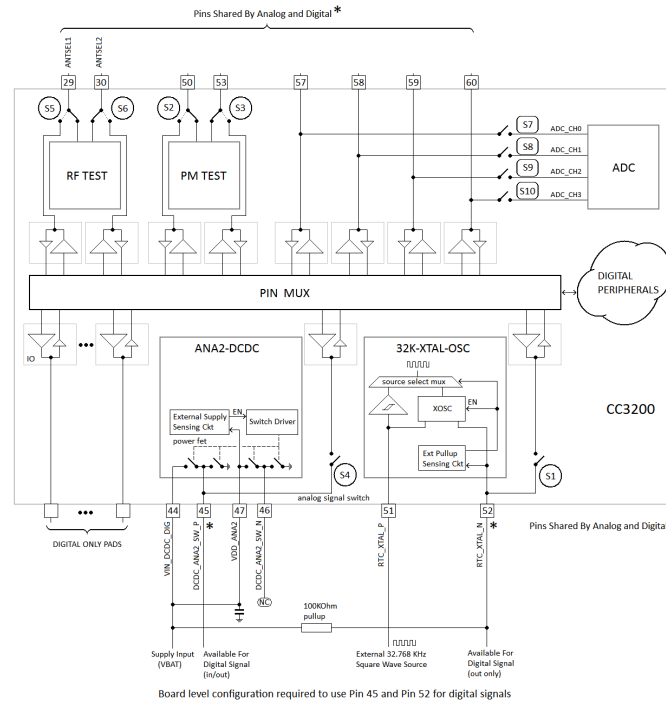

Figure 3-2. Board Configuration to Use Pins 45 and 52 as Digital Signals
(1) LPDS mode: The state of unused GPIOs in LPDS is input with 500 kΩ pulldown. For all used GPIOs, the user can enable internal pulls, which would hold them in a valid state.
(2) Hibernate mode: The CC3200 device leaves the digital pins in a Hi-Z state without any internal pulls when the device enters hibernate state. This can cause glitches on output lines unless held at valid levels by external resistors.
(3) To minimize leakage in some serial flash vendors during LPDS, TI recommends the user application always enable internal weak pulldowns on FLASH\_SPI\_DATA and FLASH\_SPI\_CLK pins.
(4) This pin has dual functions: as a SOP[2] (device operation mode), and as an external TCXO enable. As a TXCO enable, the pin is an output on power up and driven logic high. During hibernate low-power mode, the pin is in a high impedance state but pulled down for SOP mode to disable TCXO. Because of SOP functionality, the pin must be used as output only.
(5) Higher leakage current from the onboard serial flash can occur due to floating inputs when the device enters Hibernate mode. See reference schematics for recommended pull-up and pull-down resistors.
(6) For details on proper use, see Section 3.2, Drive Strength and Reset States for Analog-Digital Multiplexed Pins.
(7) This pin is one of three that must have a passive pullup or pulldown resistor on board to configure the chip hardware power-up mode. For this reason, the pin must be output only when used for digital functions.
(8) This pin is reserved for WLAN antenna selection, controlling an external RF switch that multiplexes the RF pin of the CC3200 device between two antennas. These pins should not be used for other functionalities in general.
- (9) Device firmware automatically enables the digital path during ROM boot.
- (10) Pin 45 is used by an internal DC-DC (ANA2\_DCDC) and pin 52 is used by the RTC XTAL oscillator. These modules use automatic configuration sensing. Therefore, some board-level configuration is required to use pin 45 and pin 52 as digital pads (see Figure 3-2). Because the CC3200R device does not require ANA2\_DCDC, the pin can always be used for digital functions. However, pin 47 must be shorted to the supply input. Typically, pin 52 is used for RTC XTAL in most applications. However, in some applications a 32.768-kHz square-wave clock might always be available onboard. In such cases, the XTAL can be removed to free up pin 52 for digital functions. The external clock must then be applied at pin 51. For the chip to automatically detect this configuration, a 100K pull-up resistor must be connected between pin 52 and the supply line. To prevent false detection, TI recommends using pin 52 for output-only functions.
- (11) VDD\_FLASH must be shorted to Vsupply.
- (12) To use the digital functions, RTC\_XTAL\_N must be pulled high to Vsupply using 100-KΩ resistor.
- (13) This pin is shared by the ADC inputs and digital I/O pad cells. Important: The ADC inputs are tolerant up to 1.8 V. On the other hand, the digital pads can tolerate up to 3.6 V. Hence, care must be taken to prevent accidental damage to the ADC inputs. TI recommends that the output buffer(s) of the digital I/Os corresponding to the desired ADC channel be disabled first (that is, converted to high-impedance state), and thereafter the respective pass switches (S7, S8, S9, S10) should be enabled (see Section 3.2, Drive Strength and Reset States for Analog-Digital Multiplexed Pins).
- (14) Requires user configuration to enable the ADC channel analog switch. (The switch is off by default.) The digital I/O is always connected and must be made Hi-Z before enabling the ADC switch.